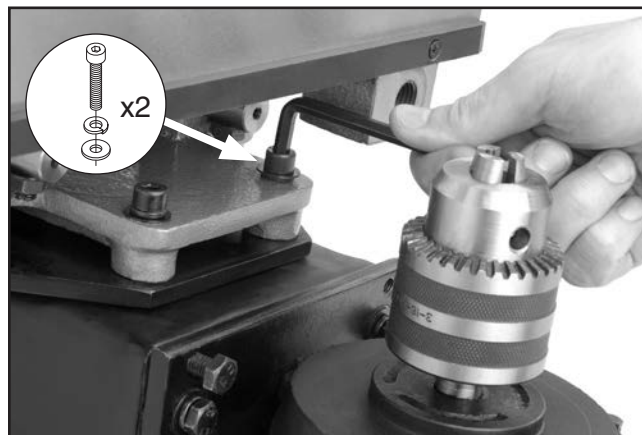

Figure 11. Mounting top of table assembly to stand.
- Fasten the top of the table assembly to the stand with two M8-1.25 x 30 cap screws, 8mm lock washers, and 8mm flat washers, as shown in **Figure 11**.